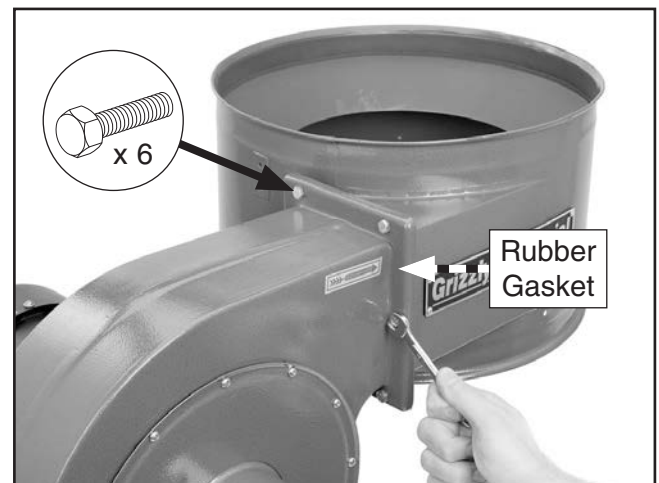

Figure 9. Attaching collector to motor/impeller housing (rubber gasket hidden by motor/impeller housing).
4. Align rubber gasket with collector mounting holes (see **Figure 9**).
5. Attach collector to motor/impeller housing with (6) M6-1 x 15 hex bolts, securing rubber gasket between them (see **Figure 9**).